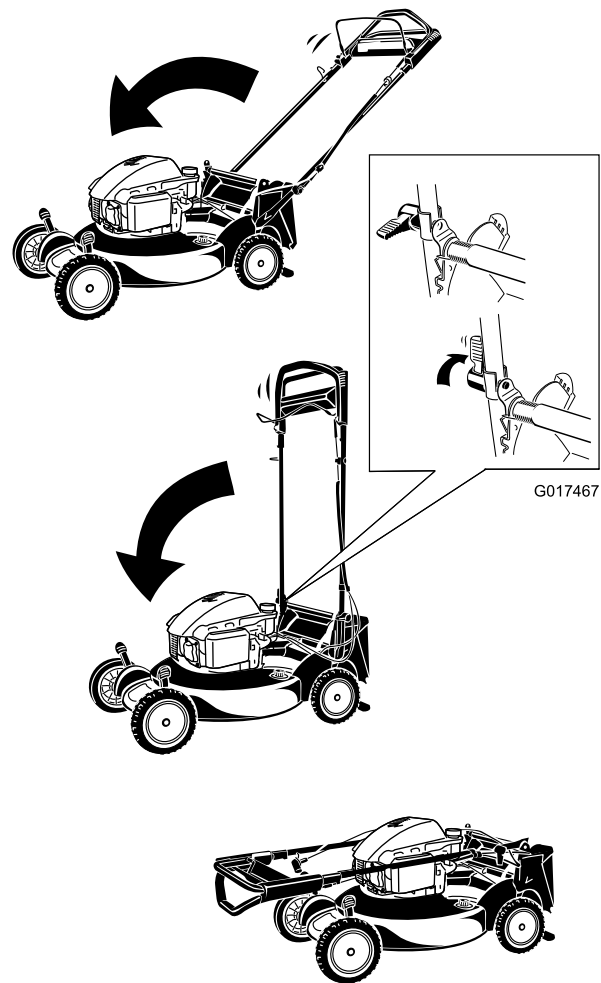

Figure 45
1. Rotate the handle forward (Figure 45).